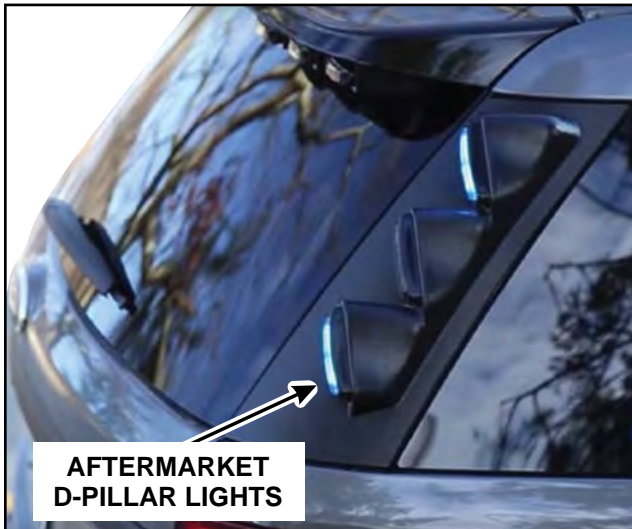

FIGURE 7a
8. For vehicles equipped with aftermarket lights on the D-pillars, seal all holes in the sheet metal and wiring harness grommets used as wiring pass throughs with Motorcraft® TA-2 seam sealer or equivalent. See Figures 7a and 7b.